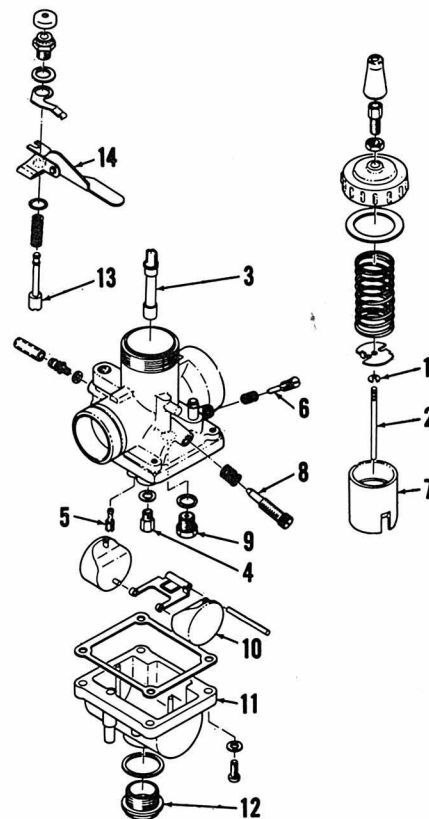
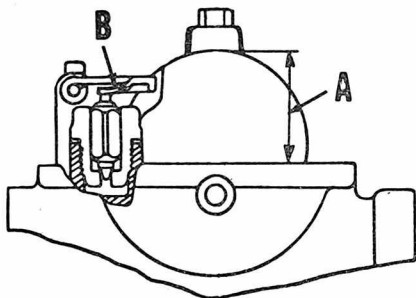

Fig. Y11-1—Exploded view of carburetor used on R5 models.
Fig. Y11-2—Float level (A) should be measured from gasket surface with gasket removed. Adjust level by bending tang (B).
**CARBURETOR.** Two Mikuni VM 28 SC carburetors are used on R5 models. Idle air screw (6—Fig. Y11-1) should be 1 3/4 turns out from a lightly seated position. Adjust idle speed to 1300-1400 RPM by turning the idle stop screw (8). Float level (A—Fig. Y11-2) is adjusted by bending tang (B) and should be set at 1 inch. Refer to Fig. Y11-1 and the following specifications: